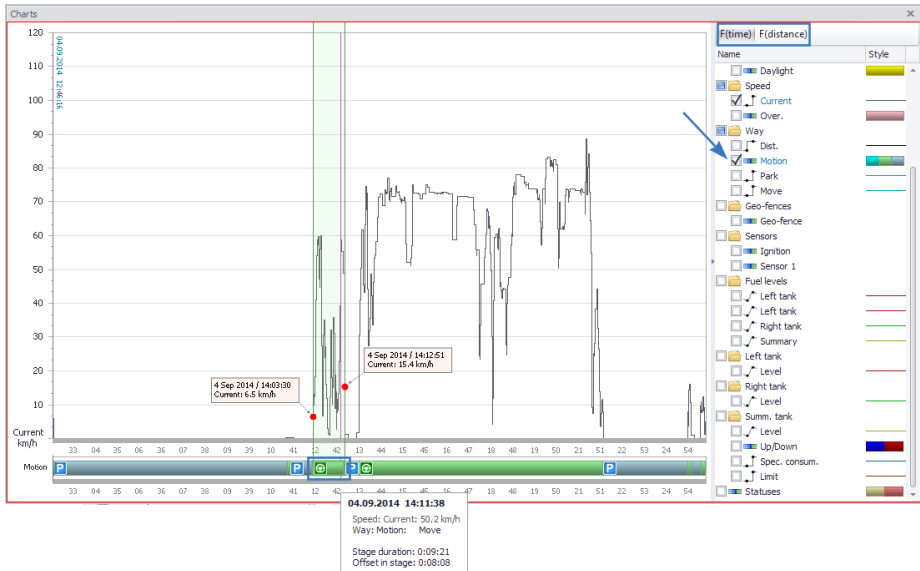

Fig. 162. Chart plotting.
- In Chart Viewer select a chart function type (**Fig. 162**): F(time) to plot a chart as a function of time, or F(distance) to plot a parameter vs distance chart.
- Select a chart of the desired parameter in the parameters list (**Fig. 162**).
When the mouse cursor is placed over the chart, a message appears with information about the highlighted chart point. If a graph is plotted in the viewer along with the chart, then when the mouse cursor is placed over the chart, a range covered by the selected chart stage will be highlighted on the graph (**Fig. 162**).